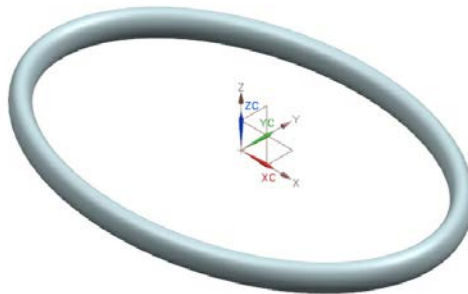

Figure 10-113 The base feature of the surface model
8. Choose the **OK** button to create the styled sweep surface. Hide the sketches that are used to create the styled surface. The resulting styled sweep surface is shown in Figure 10-113.